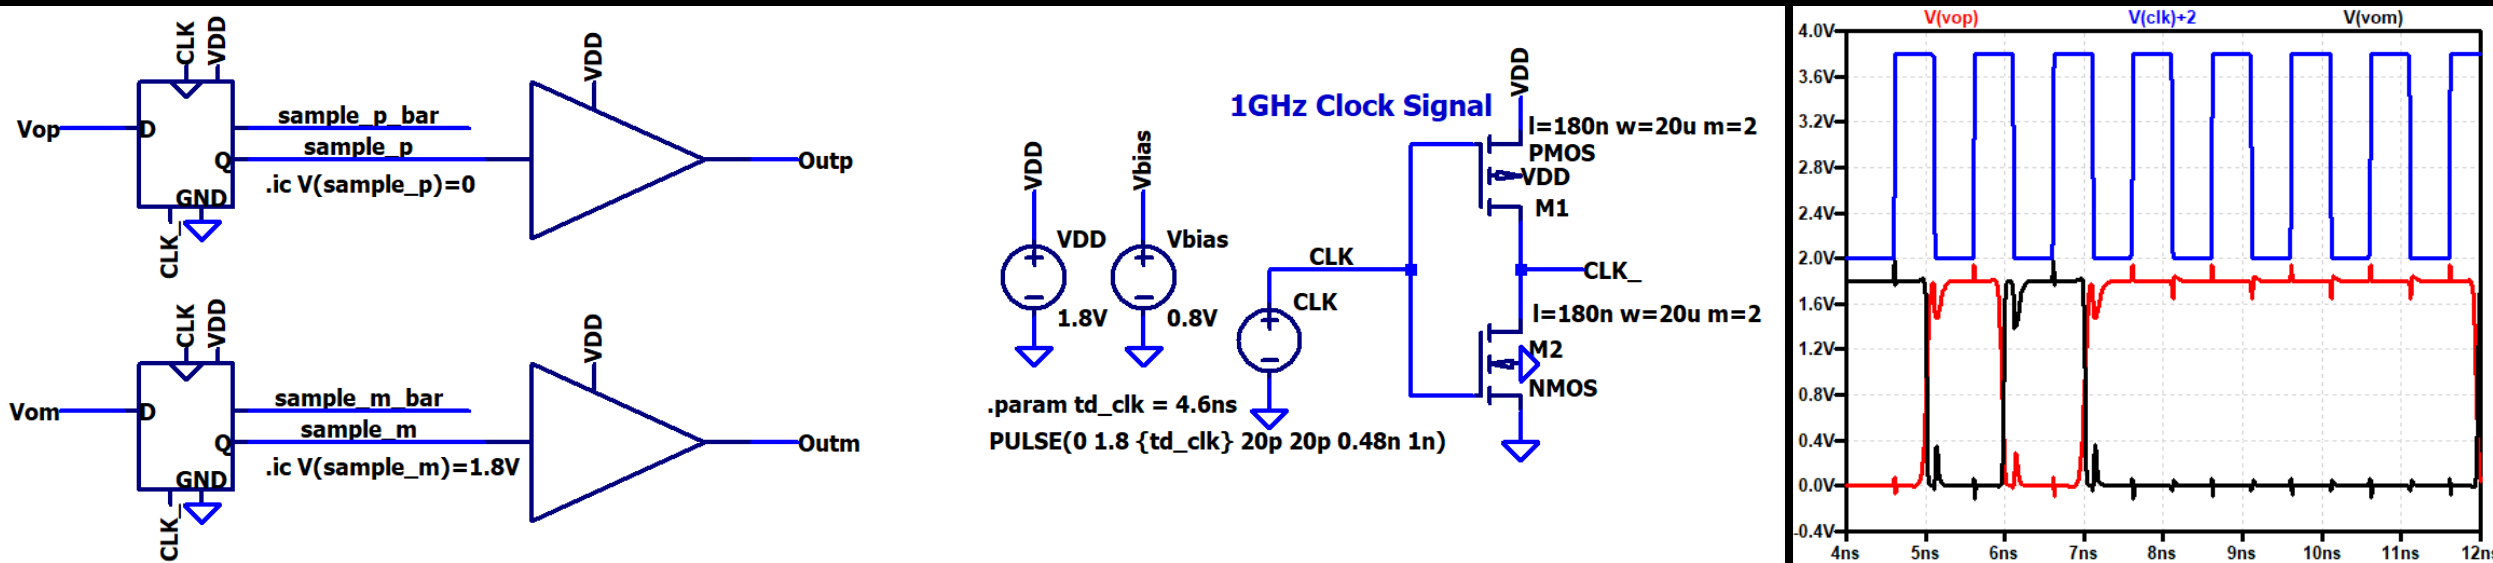

Figure 10: D flip flops used to clock data out (left); clock generator (middle); plot showing how data is clocked on rising edge (right).
- Clock feedthrough evident in plot of Figure 10 on both rising and falling edge of clock